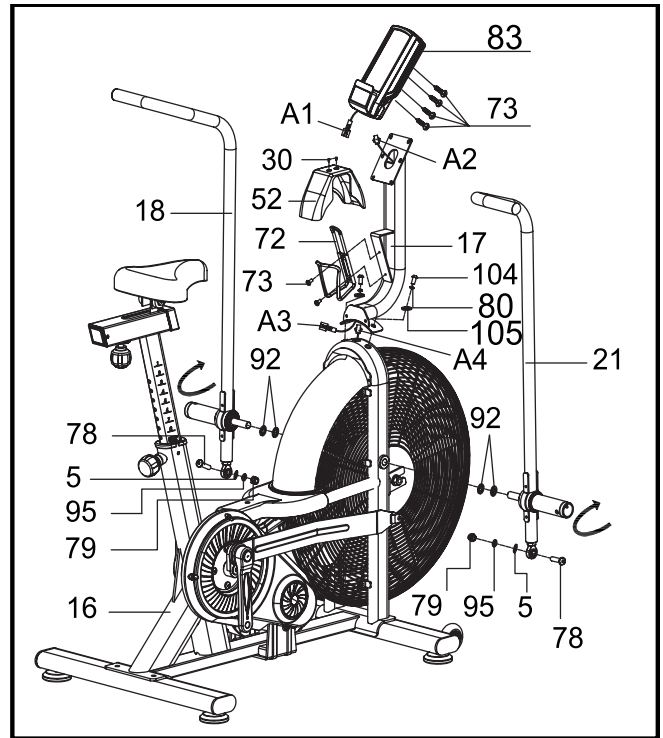

Fig. 3
STEP 3 (FIG.3):
1. Attach the **Left Handlebar Assembly (18)**, **Right Handlebar Assembly (21)**, and the **Outer Tooth Type Gasket (92)** to the **Main Frame Assembly (16)** according to the provided diagram.
- Secure them using the following components: **Inner Six-Angle Flat Head Screws (78)**, **Flat Washer (5)**, **Spring Washer (95)**, and **Lock Nut (79)**.
2. Fix the **Electronic Connection Assembly (17)** to the **Main Frame Assembly (80)** using **Six-Angle Flat Head Screws (27)**.
3. Use the **Cross Slot Screw (73)** to secure the **Aluminum Alloy Bottle Holder (72)** to the **Main Frame Assembly (16)**.
5. Attach the **Electronic Meter Assembly (83)** to the **Electronic Connection Assembly (17)** using a **Cross Slot Screw (73)**.